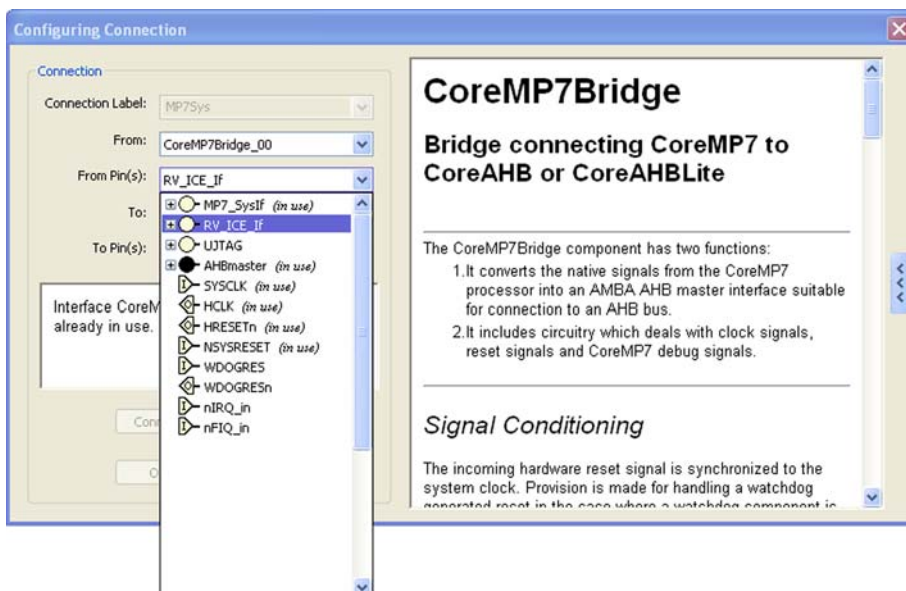

Figure 5-7. Selecting the CoreMP7Bridge RV\_ICE\_If Pins
6. **CoreMP7Bridge** should automatically be selected in the **From** field. If it is not selected, select it from the drop-down menu. Then select **RV\_ICE\_If** from the **From Pin(s)** drop-down menu, as shown in Figure 5-7.